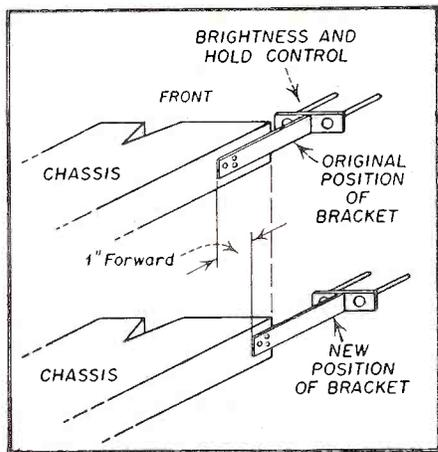

Fig. 4. How hold controls are brought forward on chassis.
1. To extend the hold and brightness controls remove three screws holding the bracket to the chassis. See Fig. 4. Move the bracket forward 1 inch. Drill new holes in chassis to correspond